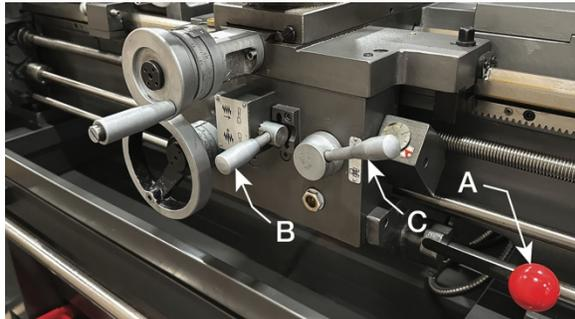

Figure 13-3
1. Move the forward/reverse selector (A, Figure 13-3) up or down depending on desired direction.
5. Push Feed Axis Selector Lever (B, Figure 13-3) to the left and down to engage crossfeed. Push lever to the right and up to engage longitudinal feed.
Push Feed Axis Selector Lever (B, Figure 13-3) to the left and down to engage crossfeed. Pull lever to the right and up to engage longitudinal feed.
3. Make sure the feed axis selector (B, Figure 13-3) is disengaged (neutral position) before engaging the half nut engagement lever. There is an interlock mechanism between the auto-feeding and the thread-cutting half-nut engagement.
4. If cutting Imperial threads, read the threading dial indicator and engage the half nut engagement lever (C, Figure 13-3) by moving it downward. It will engage with the leadscrew to obtain the longitudinal travel of carriage (the thread cutting feed). See *Section 13.7.1 Threading Dial Indicator* for proper use of dial.